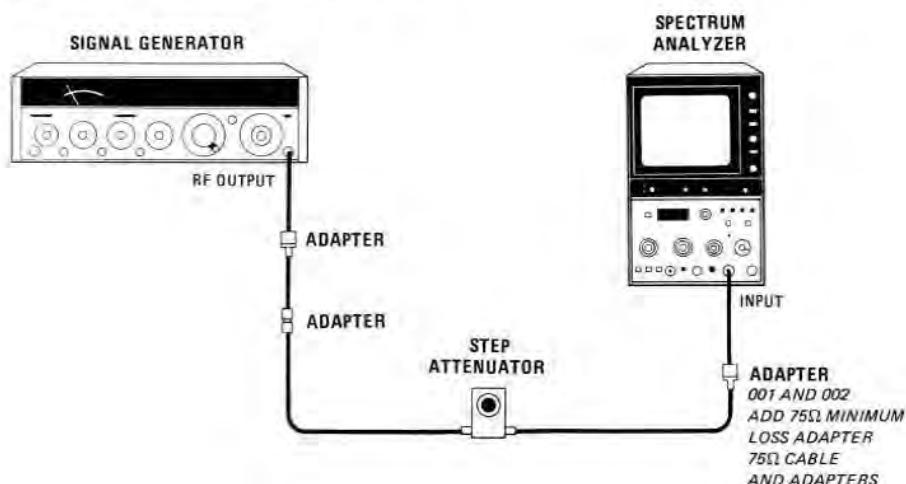

FIGURE 4-18. REFERENCE LEVEL ACCURACY TEST SETUP
- Connect equipment in Figure 4-18 with step attenuator set at 0 dB. Locate signal on CRT.